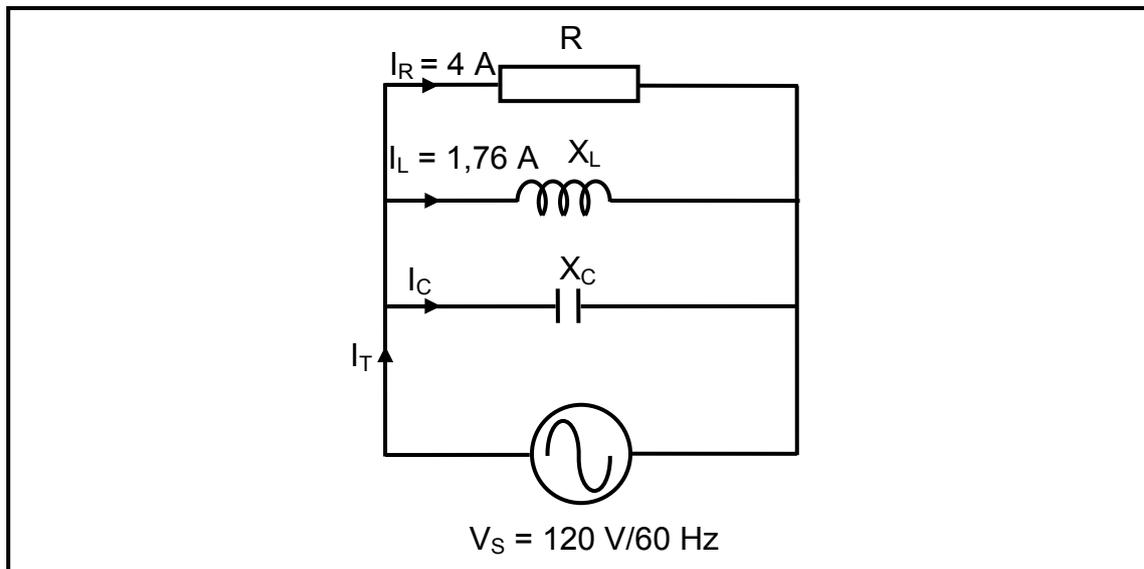

FIGURE 5.1: RLC PARALLEL CIRCUIT
- 4.8.2 A megger, set on the insulation resistance setting, is connected across W_2 and E. State the type of reading that can be expected and explain why. (3)
- 5.3 Study the circuit diagram in FIGURE 5.1 below and answer the questions that follow.